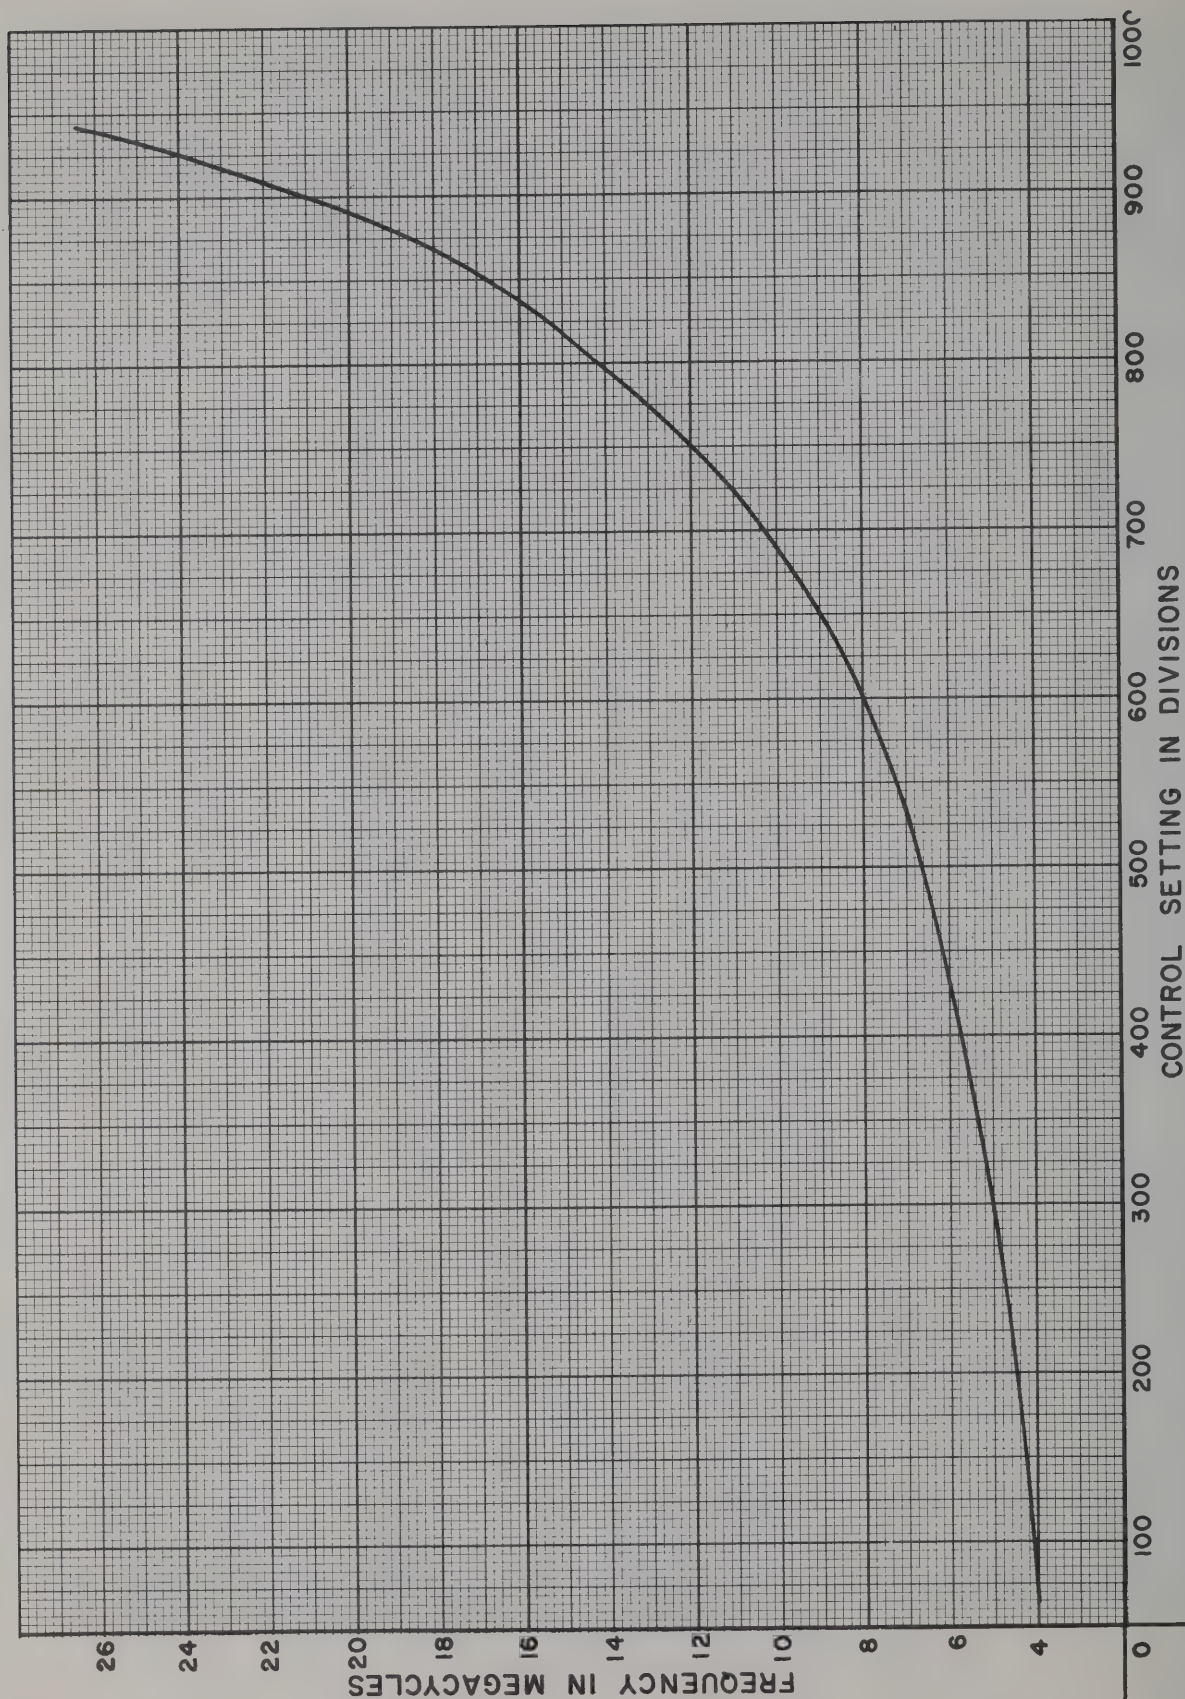

Figure 42. Output Frequency vs. DRIVER PLATE TUNING Dial Indication.
f. Refer to the calibration curves, figures 42 through 49, and set up controls C, D, E, F, and G, on the preset tuning control panel strip for the channel selected on Radio Transmitter T-454/FRT-26, and H and M on the preset tuning control panel strip corresponding on R-F Amplifier AM-738/FRT-22, to the settings indicated by the curves. Settings for the controls I and J on the preset tuning control panel strip of R-F Amplifier AM-738/FRT-22 will depend on the nature of the load presented to the transmitter by the transmission line.